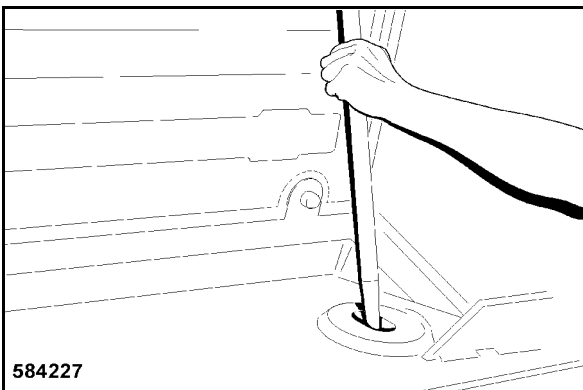

Fig. 208
*If the bores do not match the cabin can be moved into position by means of a crow bar (Fig. 208).*